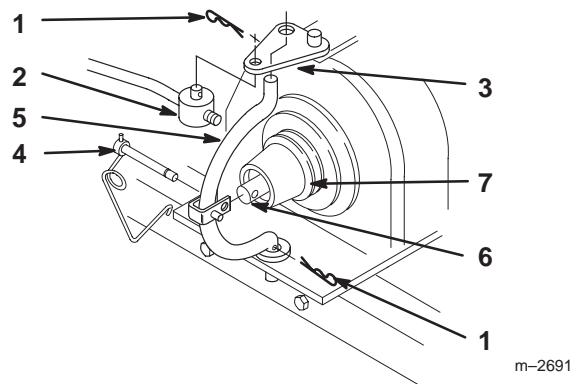

Figure 24
6. Remove hairpin cotters from trunnion and bottom of yoke (Fig. 24).
7. Unlatch and remove locking clevis pin that secures yoke assembly to clutch shaft. Pivot yoke out and forward to remove from clutch shaft and engagement plate (Fig. 24).
8. Remove snowblower belt from pulley (Fig. 24).
9. Assemble yoke and engagement plate and attach locking clevis pin, trunnion and hairpin cotters to secure (Fig. 24).